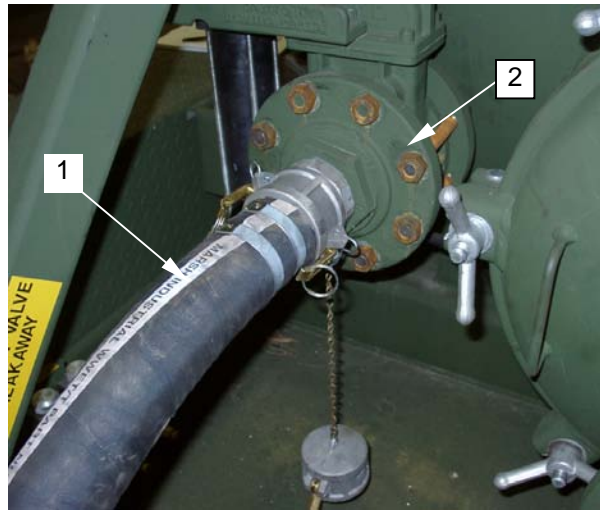

Figure 27. Intake hose connected
26. Disconnect 2½-inch intake hose (**figure 27, item 1**) from intake valve (**figure 27, item 2**) and drain into source.